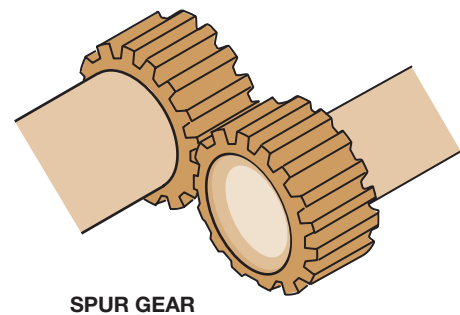

FIGURE 1-9 The teeth of a spur gear are cut parallel to the shaft, and this produces a straight pressure between the driving and the driven gear teeth.
- **Spur gears**—Spur gears, the simplest gears, are on parallel shafts with teeth cut straight or parallel to the shaft. ● **SEE FIGURE 1-9.**